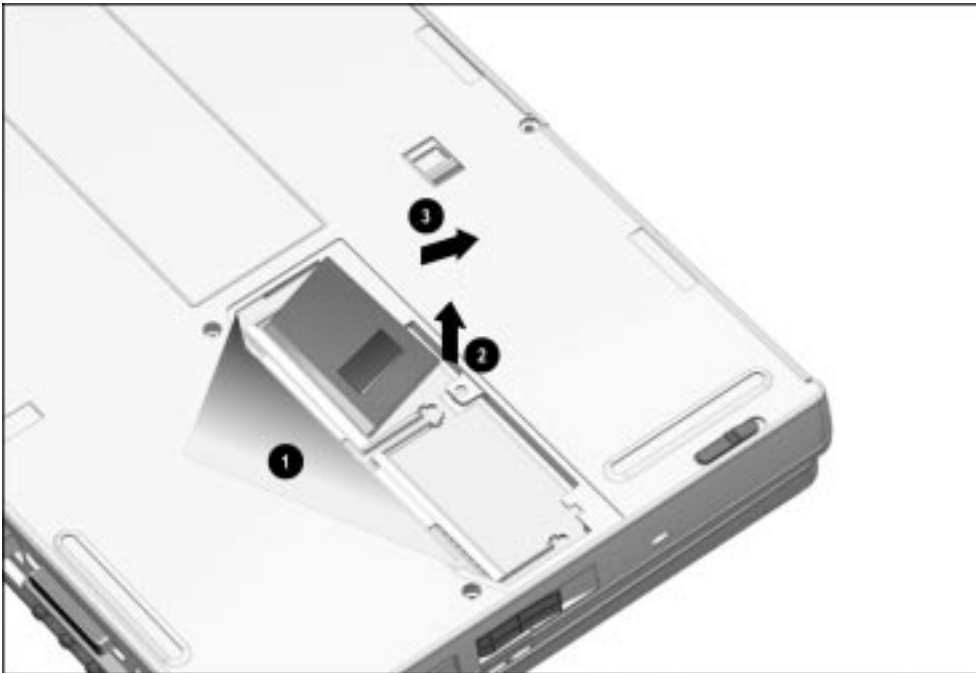

Figure 5-26. *Removing a Memory Expansion Board*
1. Lift and hold back the memory insulator ❶. The insulator is not removable (Figure 5-26).
3. Lift up the edge of the memory expansion board ❷.
4. Pull the memory expansion board out of the memory expansion slot at a 45-degree angle ❸.